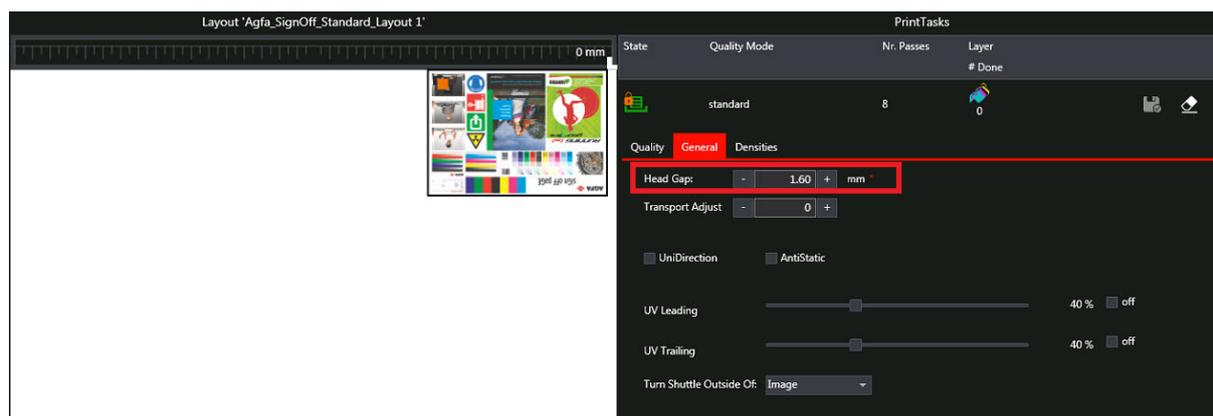

Fig.5-11: General Tab
- Step 2: Navigate to the General Tab and check the Head Gap (outlined in red in Fig.5-11). The theoretical distance between the media surface and the print head should be set to 1.3 mm.